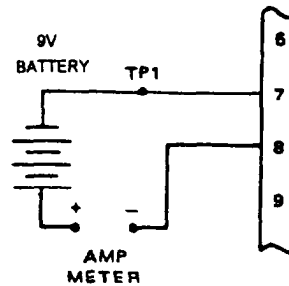

Figure 3-2. Battery BB-558/A Wiring Harness, Wiring Diagram.
7. AIRCRAFT BATTERY FAULT INDICATOR LIGHTS (BB-558/A) AND FAULTY LOW TEMPERATURE OPERATION (fig. 3-2).
7. AIRCRAFT BATTERY FAULT INDICATOR LIGHTS (BB-558/A) AND FAULTY LOW TEMPERATURE OPERATION (fig. 3-2) (cont)
7. AIRCRAFT BATTERY FAULT INDICATOR LIGHTS (BB-558/A) AND FAULTY LOW TEMPERATURE OPERATION (fig 3-2) (cont)
7. AIRCRAFT BATTERY FAULT INDICATOR LIGHTS (BB-558/A) (fig. 3-2) (cont)